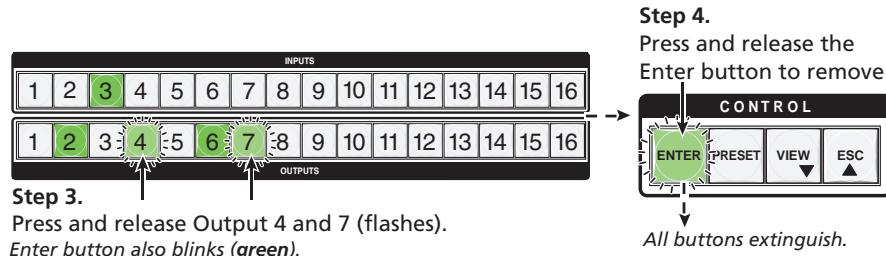

Figure 15. Removing Ties — an Example (Steps 3 and 4)
4. Press and release the flashing Enter button (see **figure 15**). The two ties are removed, and all button lights extinguish.